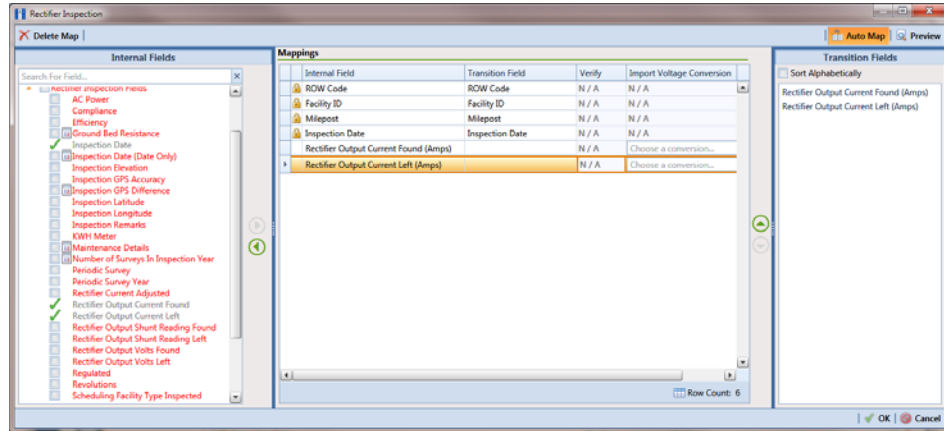

Figure 10-9. Field Mappings
- a Click  **Edit** in the *Maps* group box to open a field mapping window (Figure 10-9).
NOTE: Fields in the *Mappings* panel with a lock icon  are required fields for mapping, such as *ROW Code*, *Milepost*, *Facility ID*, and *Inspection Date* shown in Figure 10-9.
- b Select PCS Axis fields for mapping. Click the  toggle arrow for a field category in the *Internal Fields* panel to view a list of available fields. For example, *Rectifier Inspection Fields* is selected in Figure 10-9.
For example, the PCS Axis fields *Rectifier Output Current Found (Amps)* and *Rectifier Output Volts Found (Volts)* are selected for mapping in Figure 10-9.